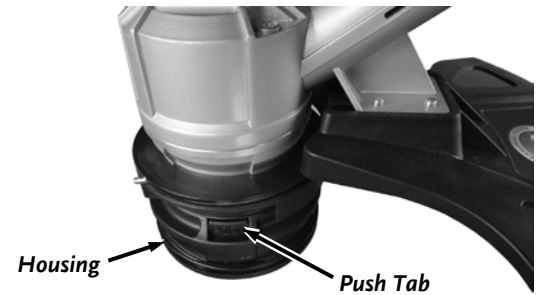

Figure 17
1. Remove any old Line that may still be in the Spool by pushing the two Push Tabs of the Housing in and removing the Housing (**Figure17**).